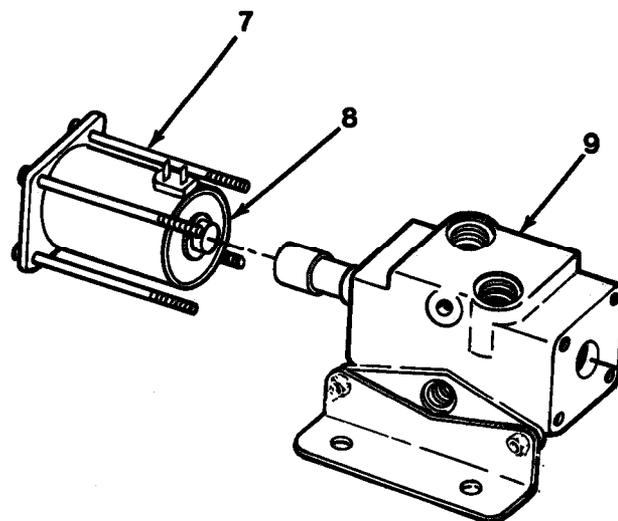
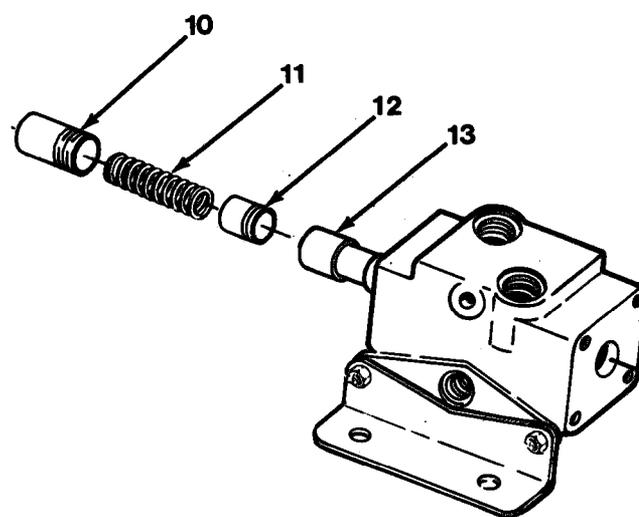

Figure 13-2
Figure 13-3
1. Remove eight capscrews (7) from case and tube assemblies (9, Figure 13-2).
2. Remove two solenoid coils (8) from case and tube assemblies (9).
3. Remove two spring retainers (10), springs (11) and spring retainers (12) from tubes (13, Figure 13-3).